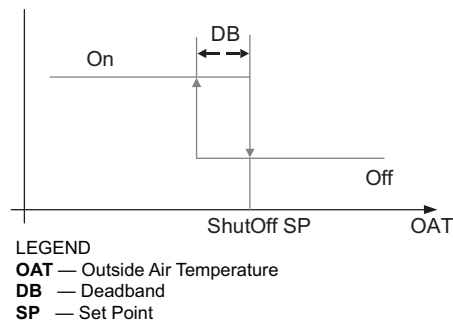

Fig. 67 — Hysteresis Settings
Hysteresis setting (DB) defaults to 2°F (−16.6°C). See Fig. 67.